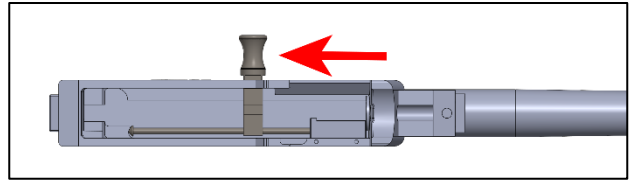

Figure 29
- While maintaining the correct position of the charging handle assembly, grasp the charging handle and fully retract it rearward – Figure 29. The use of a flat bladed screwdriver may help with fully compressing the spring.